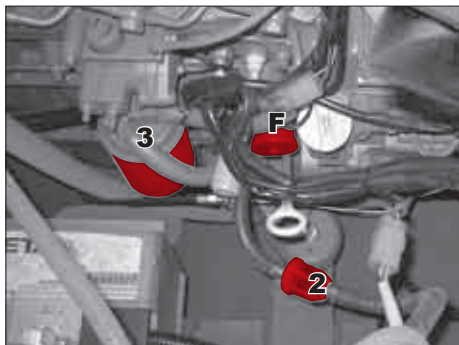

Fig. 78
The fuel pre-filter Item 2 (Fig. 78) can only be replaced in conjunction with the entire housing.
1. Place a receptacle under the main fuel filter Item 3 (Fig. 78).